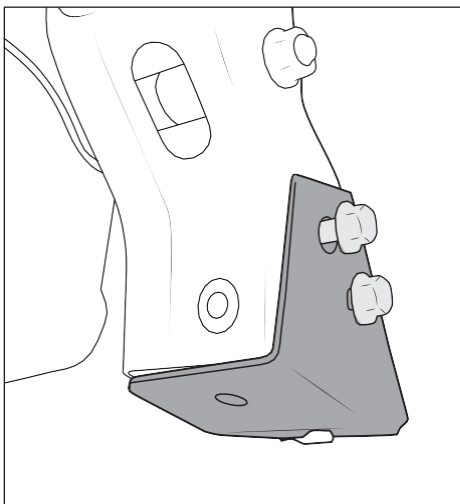

Figure 30
3. Install provided skidplate mounting brackets using M10 hex bolts and washers from skidplate kit. Hold the brackets tight to the bottom of the compatibility beam and torque bolts to 30 ft-lb (fig. 30).